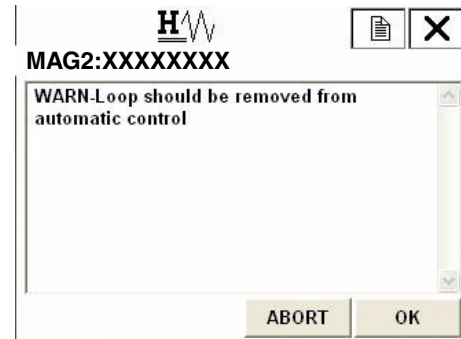

Figure 131.
Figure 131 is then displayed.
2. Once the display as shown Figure 131 appears, make sure that the loop is removed from the automatic control. Then press “OK” to execute the output check with a calibrator. Then Figure 132 is displayed.